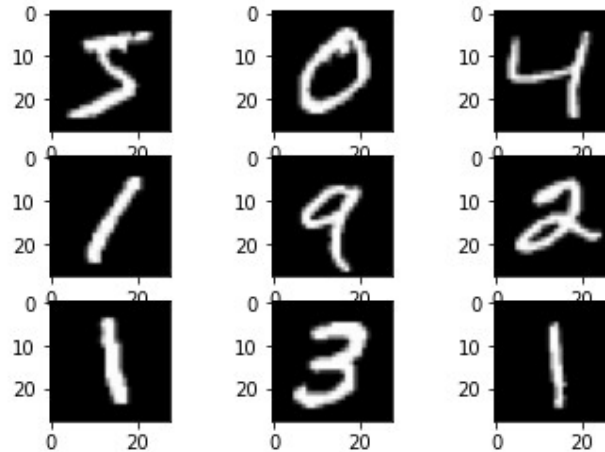

Figure 1: Hand drawn numbers1.
3. Within the unknown environment are a number of hand drawn numbers, as seen in Figure 1. These numbers will be located randomly around the environment on different surfaces at approximately knee height. You will need to use image recognition to determine the number and note its location.